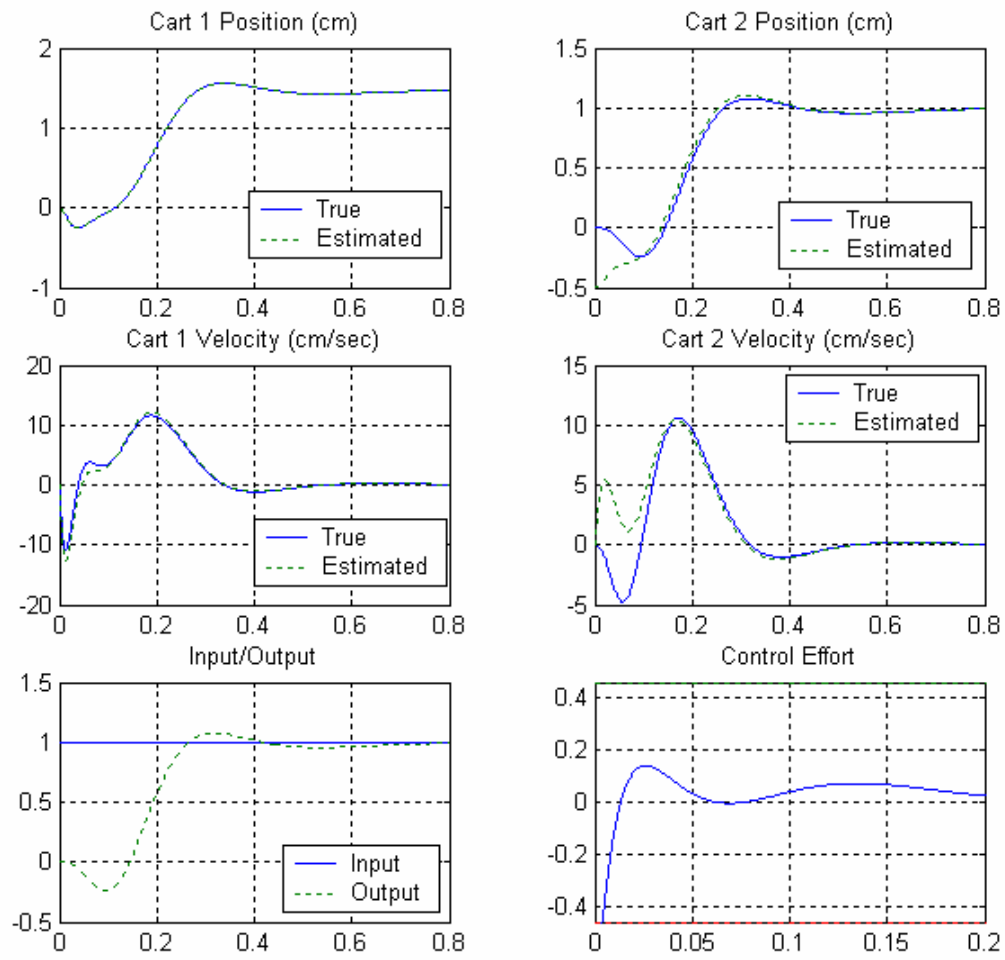

Figure 6. Results for 2d.
d) Change part (c) so that we only know the position of the first cart, and want to control the position of the second cart. Place the observer poles at $[-15 \ -20 \ -25]$, and assume our initial estimate of the position of the second cart is -0.5 cm, the initial estimate of the velocities of both carts is 0 cm/sec. You should get results similar to that in Figure 6.